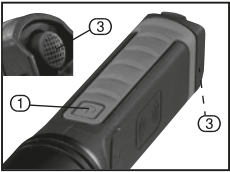

FIG. 1
9.1 USING THE ON/OFF SWITCH – FIG. 1